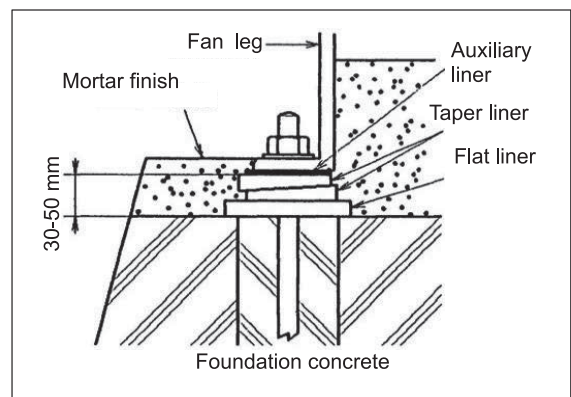
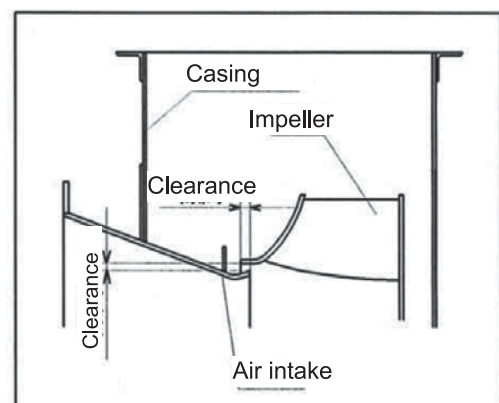

Figure 3 – Example of liner placement
Figure 4 - Clearance
- (4) As shown in Figure 3, place one flat liner and two taper liners so that they are displaced to either side around the foundation bolt hole on the fan base. Use an auxiliary liner (3 mm or thicker) as needed. If the distance between foundation bolts exceeds 1 m, place additional liners between the foundation bolts.
- (5) Place the fan base on the liners. Then pass each foundation bolt through an foundation bolt hole on the fan base to allow the bolt to suspend inside the blockout hole. To make the fan earthquake-resistant, weld each foundation bolt to reinforcing bars of the foundation concrete.
- (6) Adjust the position and height of the fan using the taper liners.
- (7) If the casing is separated from the bearing and the base, set the height and the position in consideration of the clearance between the rotating body and the casing (Refer to Figure 4). Adjust the clearance between the impeller and the air intake and the clearance between the main shaft and the casing (shaft seal) so that they are as even as possible in terms of circumference.